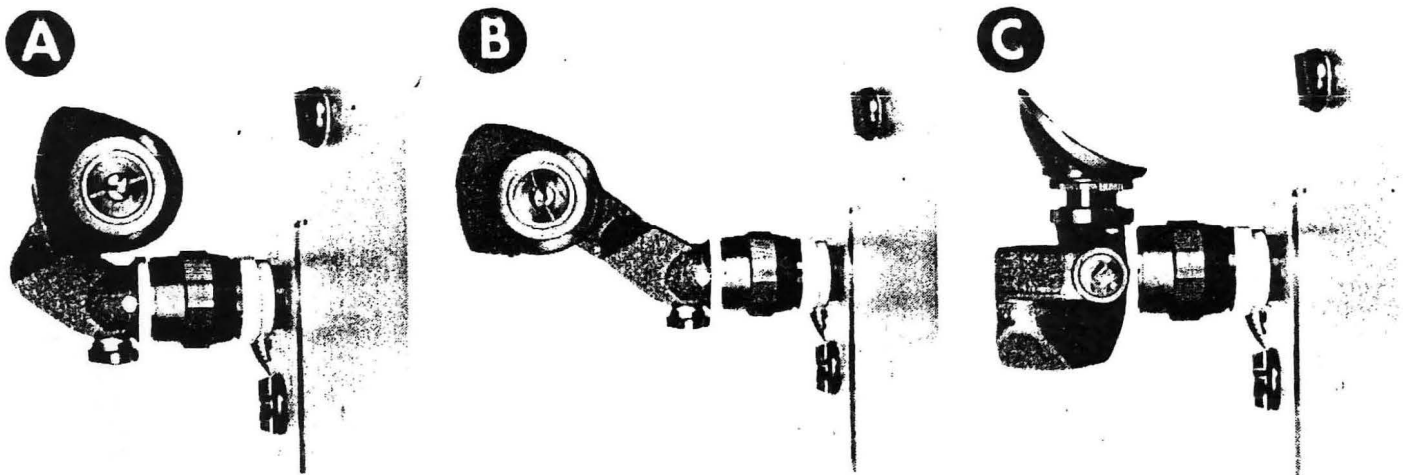

Figure 3-1. Orientable Viewfinder
The Cinema Products orientable viewfinder (figure 3-1) was designed with a unique optical path in which the optics fold forward so that the eyepiece is approximately 1 inch (25mm) behind the film plane as it is in the standard viewfinder. The CP erect image orientable viewfinder permits left-eye viewing without requiring any additional accessory.
There are four controls on the orientable viewfinder: the viewing position lock (1, figure 3-1) and the image orientation lock (2), in addition to the eyepiece diopter adjustment ring (3) and eyepiece "dowser" open/close control ring (4). The eyepiece diopter adjustment ring provides ± 5 diopters of adjustment.